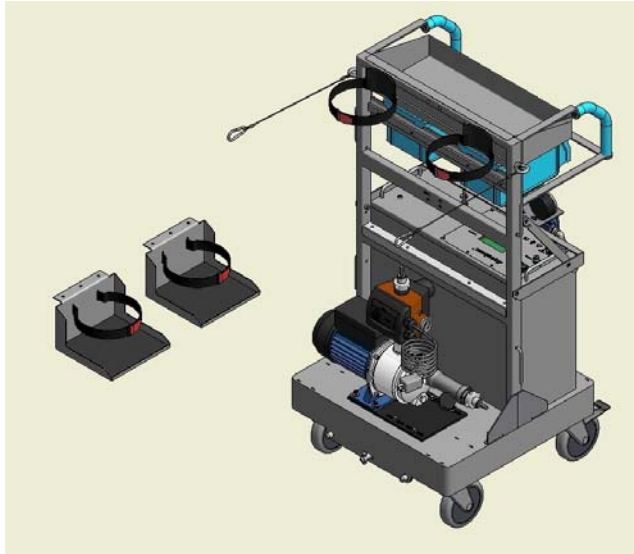

Figure 6 - Relocate Velcro[®] straps
5. Relocate and install the two (2) remaining Velcro[®] straps that fix the carbon tanks. (See figure 6)